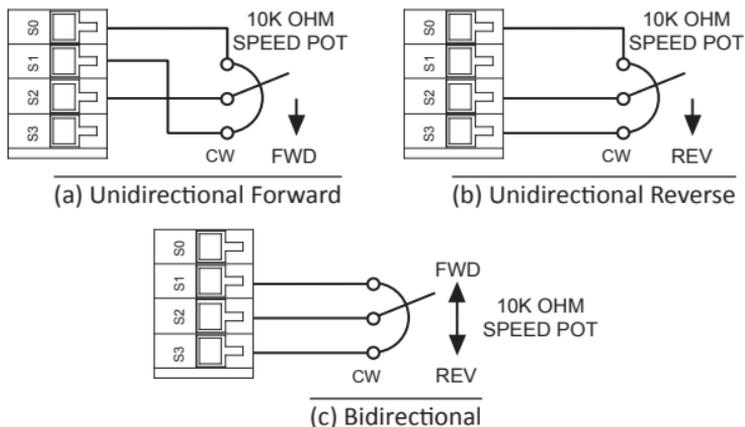

Figure 8. Speed Adjust Potentiometer Connections
For unidirectional operation in the forward direction, connect the speed adjust potentiometer as shown in Figure 8(a).
For unidirectional operation in the reverse direction, connect the speed adjust potentiometer as shown in Figure 8(b).
For bidirectional operation, connect the speed adjust potentiometer as shown in Figure 8(c). The motor does not operate when the potentiometer is in the center position. Turning the potentiometer clockwise (CW) from the center position causes the motor to rotate in the forward direction, while turning the potentiometer counterclockwise (CCW) causes rotation in the reverse direction.